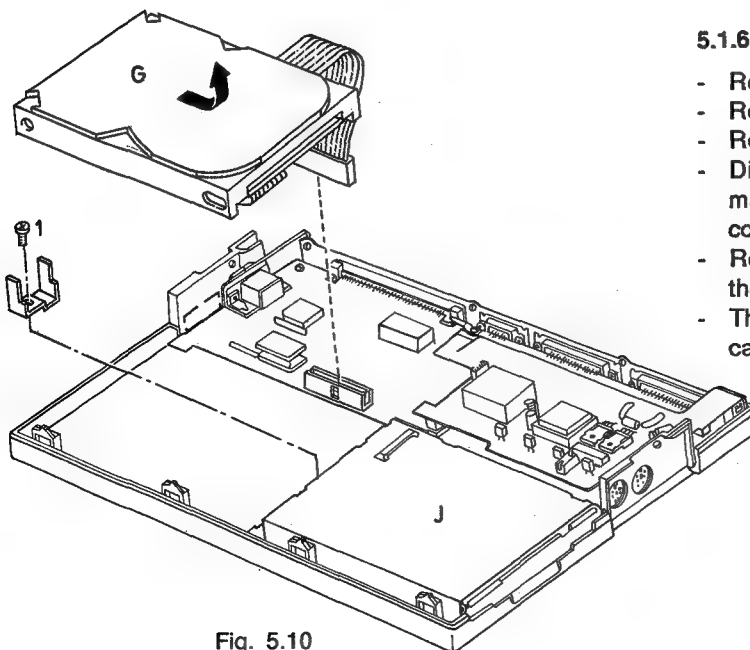

Fig. 5.10
- Remove one screw (1) and the bracket which holds both the floppydrive and the harddisk, see Fig. 5-10.
- Remove one screw (1) and the bracket which holds both the harddisk (G) and the floppydrive (J)
- The harddisk can be removed by lifting it out of the lower case, see Fig. 5-10.